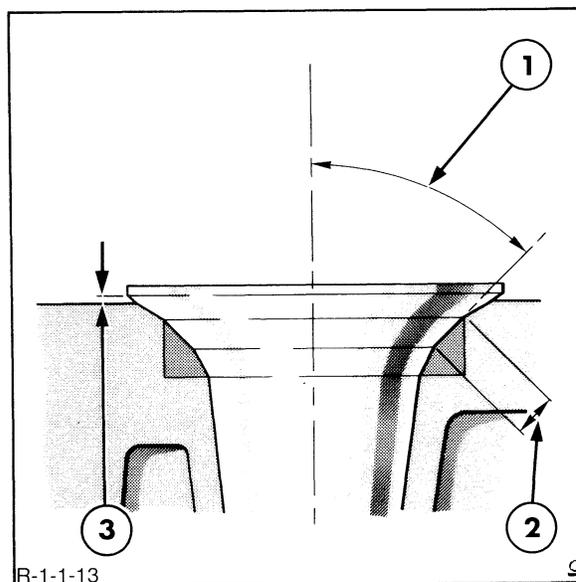

FIGURE 1-12
3. Check the width of the valve seat inserts and, if necessary, reface by grinding to the dimensions shown in Figure 1-12.
5. Using a seat cutter with the correct angle (refer to Figure 1-12), remove only enough stock from the seat to clean up the pits and grooves or to correct the seat eccentricity. After refacing, the seat width must be within the specified limit.
7. Rotate a new or refaced valve lightly in the seat, using Prussian Blue. If the blue is transferred to the valve face the specified distance (valve head protrusion) below the upper edge of the valve face, Figure 1-12, the contact is satisfactory. If the blue is transferred to the valve face above or below this point, raise or lower the seat as follows.